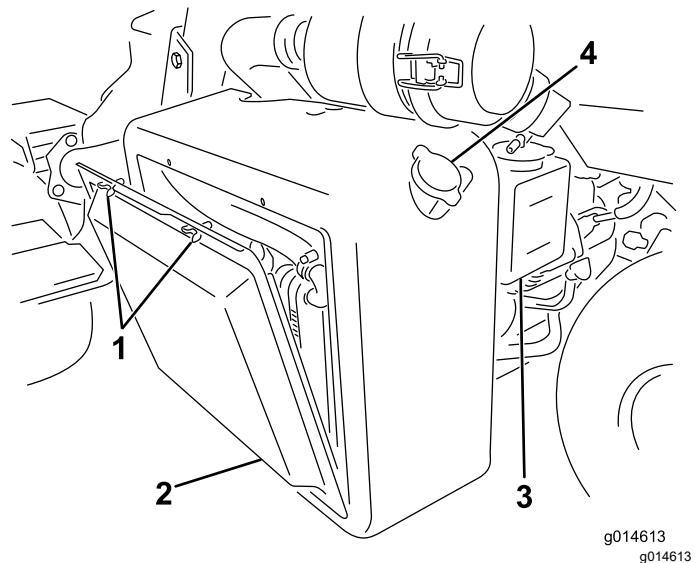
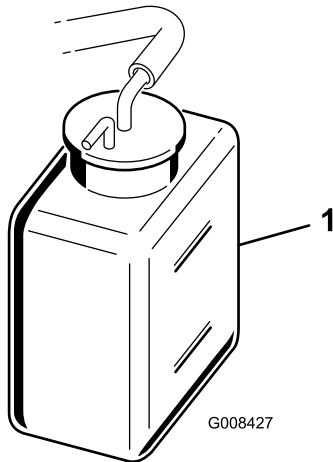

Figure 55
Figure 56
1. Remove the radiator screen (Figure 55).
2. Check the coolant level (Figure 55 and Figure 56).